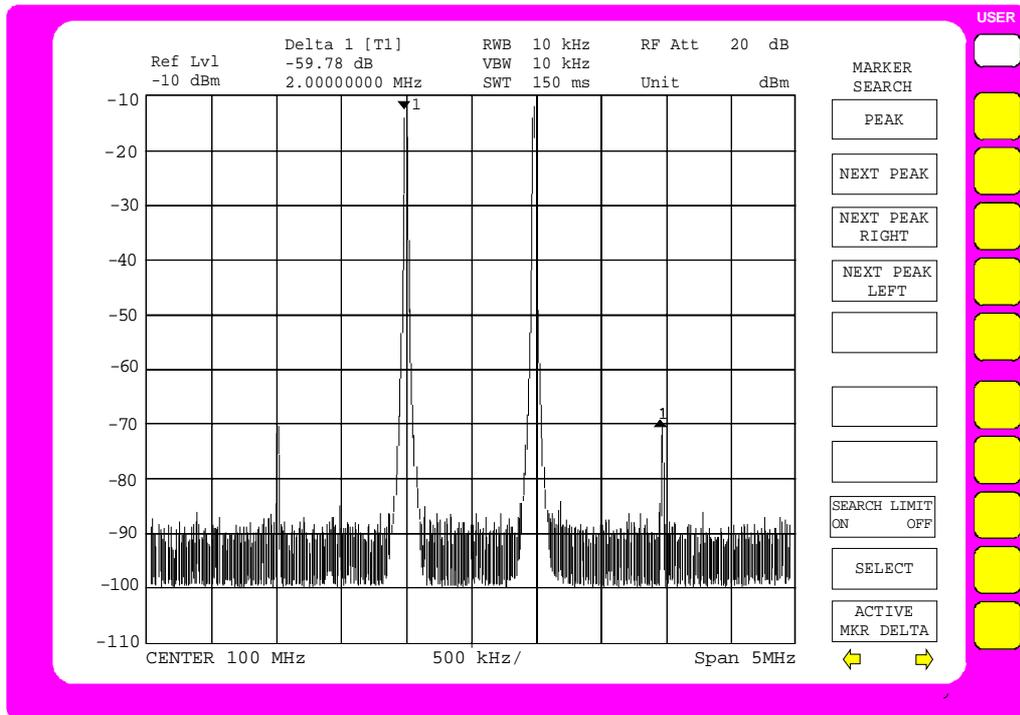

Fig.2-13 Measuring diagram in low distortion mode
The FSE shows the measuring diagram in Fig.2-13
If the amplitude of the IM products doesn't change, the existing setting is sufficient (see Fig.2-13)
- Move the marker to an intermodulation product using the roll-key (see Fig.2-13).
- Press the *NEXT PEAK RIGHT* softkey until the delta marker appears on one of the IM products (see Fig.2-13).
8. Calculate IP3 from the measured offset and the signal level according to (4)